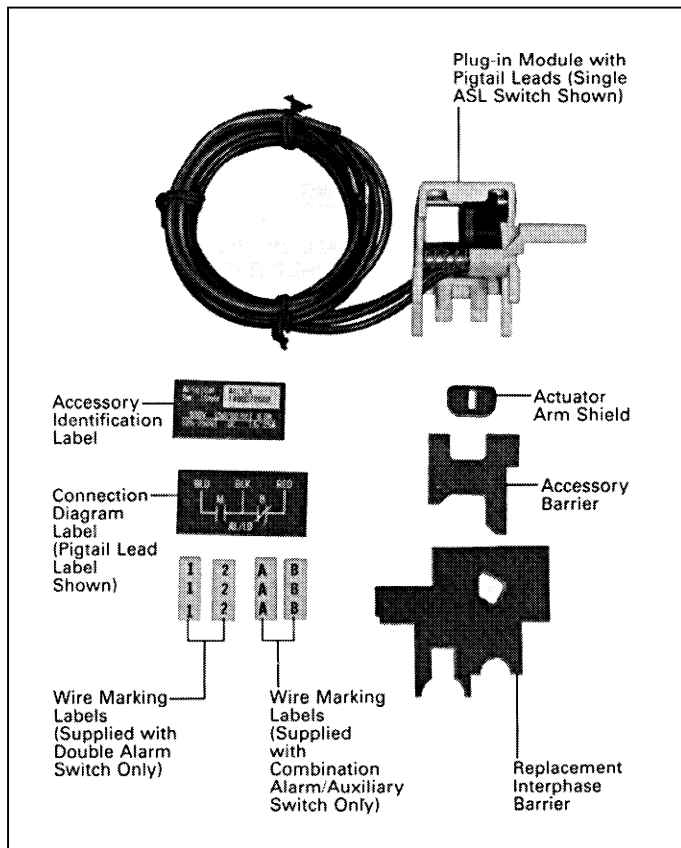

Fig. 2-1. Alarm (Signal)/Lockout Switch Kit
The ASL switch and accessory combination, as shown in kit form in Fig. 2-1, can be installed in the right accessory mounting cavity of a 2-pole circuit breaker, in the left or right cavity of a 3-pole circuit breaker, and in the left cavity only of a 4-pole circuit breaker. An ASL switch or accessory combination must be installed in a circuit breaker before the circuit breaker is mounted in an electrical system. Install the ASL switch or accessory combination, as follows:
- e. For double ASL switch with pigtail leads, attach wire marking labels (Fig. 2-1) to the bundle of 3 leads for each switch.